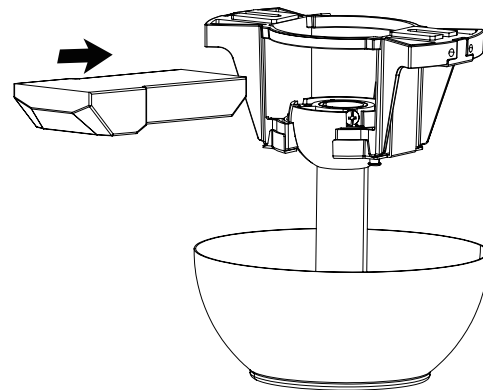

Fig. 13
Step 1. Insert the receiver into the ceiling mounting bracket with the flat side of the receiver facing the ceiling (**Fig. 13**) for best performance, make sure the black antenna wire (on the end of the receiver) remains extended, and does not become tangled with the electrical wires.